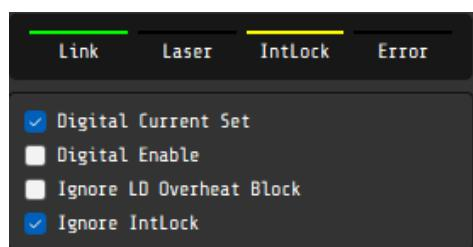

Figure 9. MAIMAN BENCHSOFT software setup for TTL modulation (without INTERLOCK button)
3. After that, in Device state flags panel you should activate two buttons: “Digital Current Set” and “Ignore IntLock” (if you don’t use INTERLOCK button) as it shown in Figure 9.